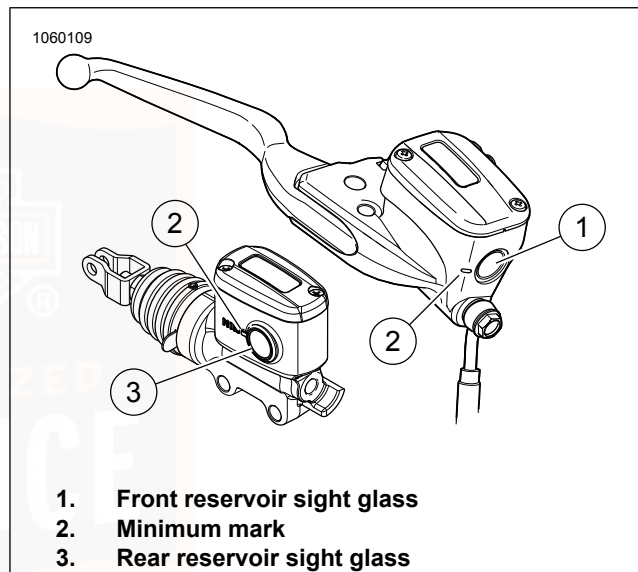

Figure 66. Brake Fluid Reservoirs
2. **Front:** See Figure 66. Check level in front reservoir sight glass. Level must be above minimum mark on side of reservoir.
3. **Rear:** See Figure 66. Check level on side of rear brake reservoir. Level must be above minimum mark on side of reservoir.